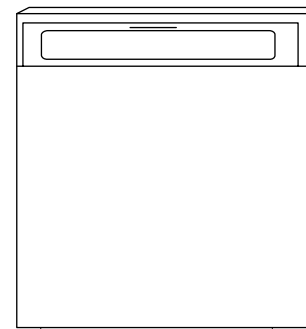

Figure 3
- Remove the two screws at the bottom of the door panel (Figure 3). Retain screws.